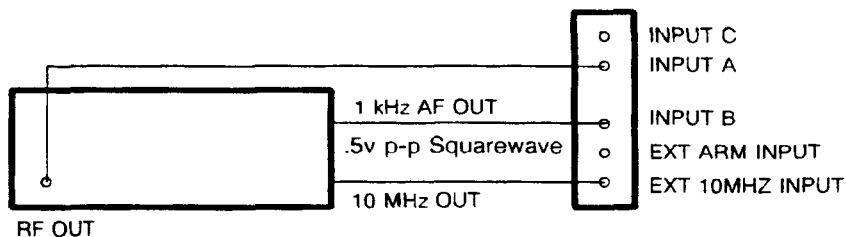

Figure 5-8. Ratio A / B Test Configuration
2. Connect the VX4223 to the signal generator as shown in Figure 5-8. Set the signal generator to 50 MHz, 100 mV rms. Verify that the counter's measurement result is 50000 ± 10 .